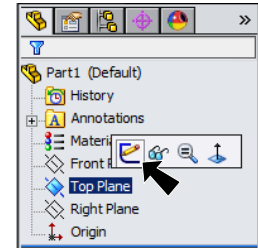

Fig. 1
Step 2. Click **Top Plane**  in the Feature Manager and click **Sketch**  on the Context toolbar, **Fig. 1**.